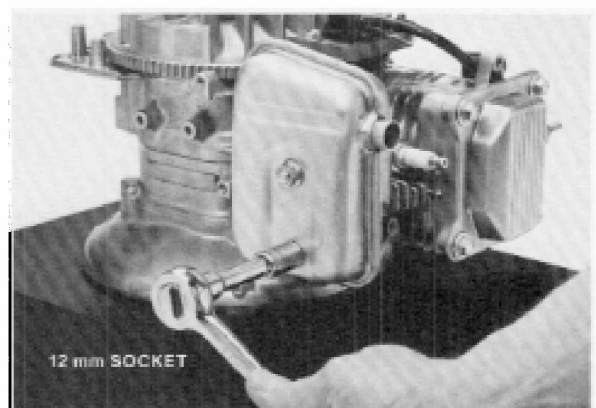

Figure 4-65
3. Make sure the exhaust pipe faces toward the spark plug end of the engine when mounting. See Fig. 4-65.